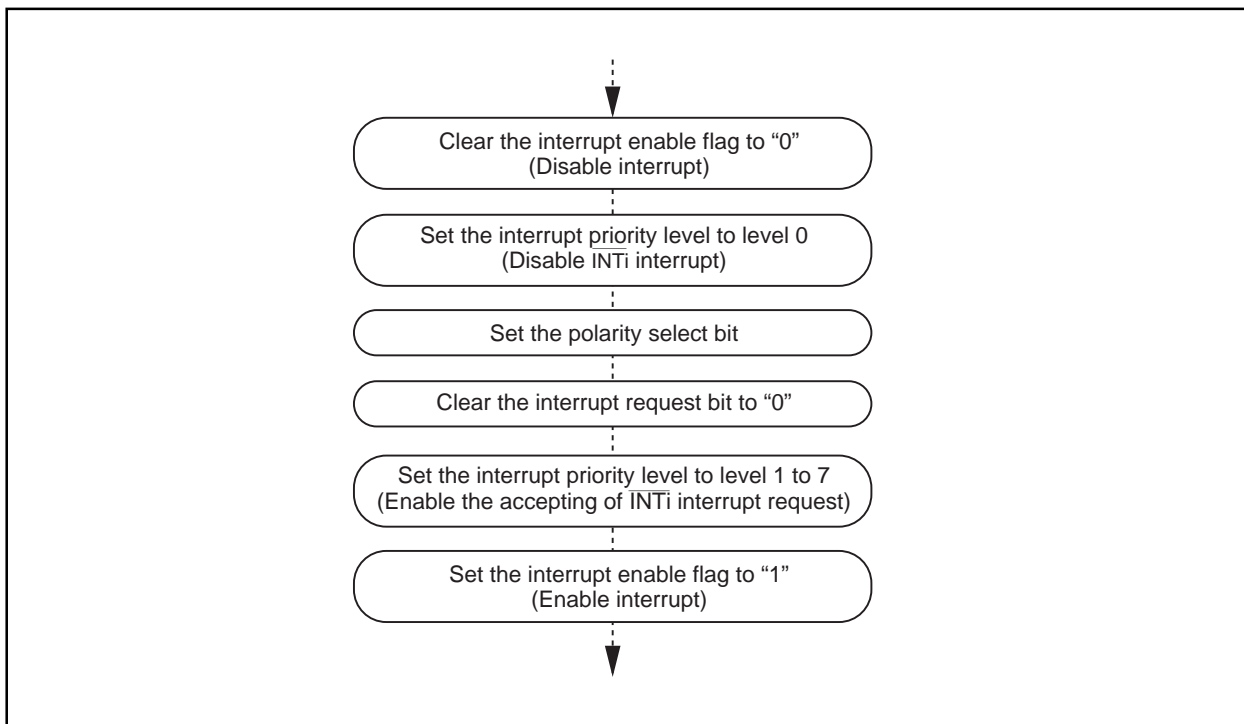

Figure 33. Switching condition of INT interrupt request
(2) Setting the stack pointer
(3) External interrupt
- When changing a polarity of pins $\overline{\text{INT0}}$ and $\overline{\text{INT1}}$, the interrupt request bit may become "1". Clear the interrupt request bit after changing the polarity. Figure 33 shows the switching condition of $\overline{\text{INT}}$ interrupt request.